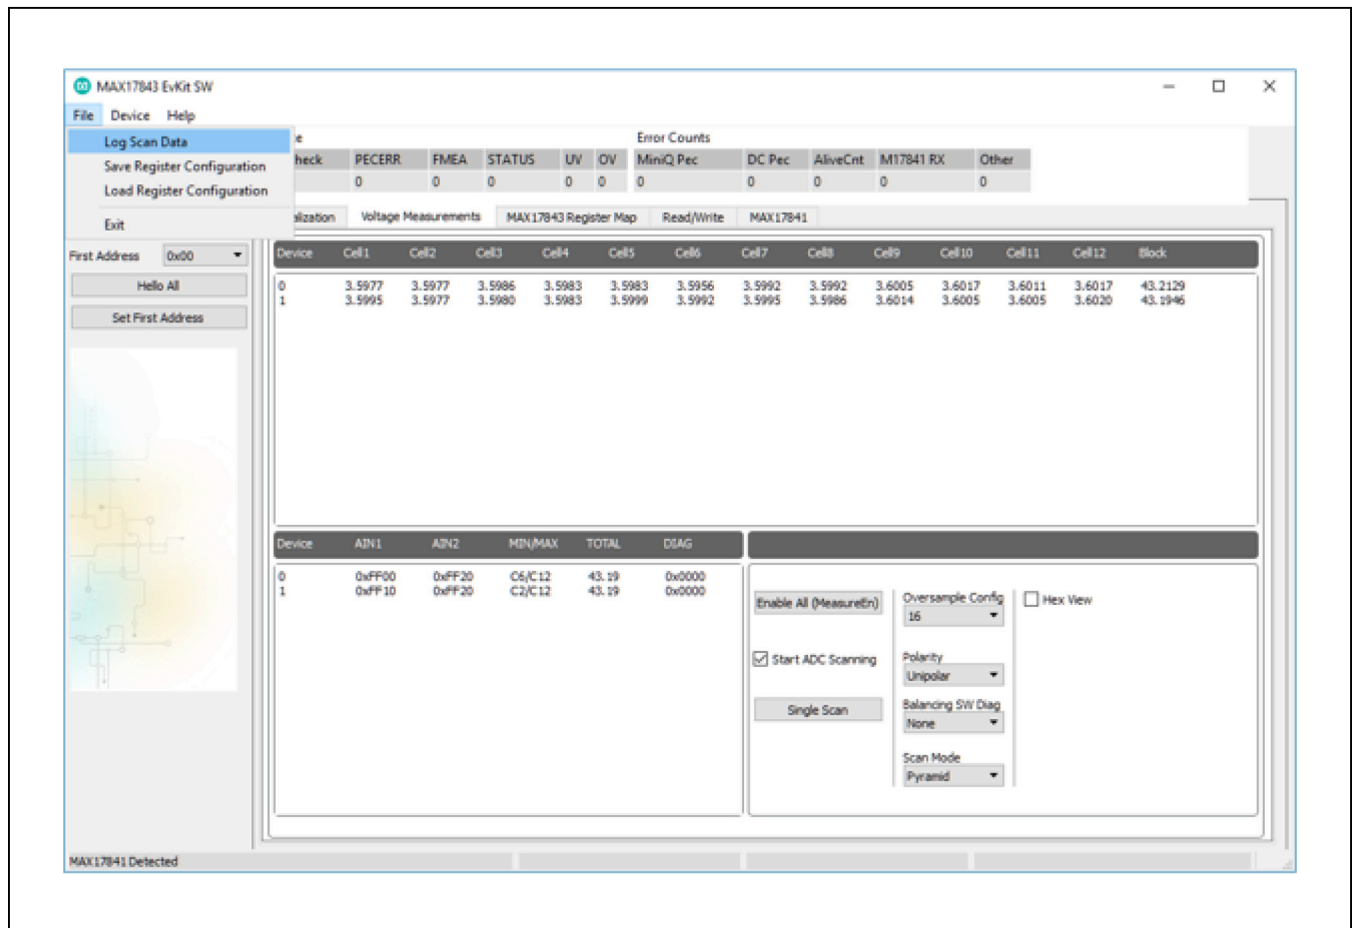

Figure 10. MAX17843 Evaluation Kit Software (File Menu Item—Log Scan Data)
- Select the **File | Log Scan Data** menu item. The window shown in Figure 10.